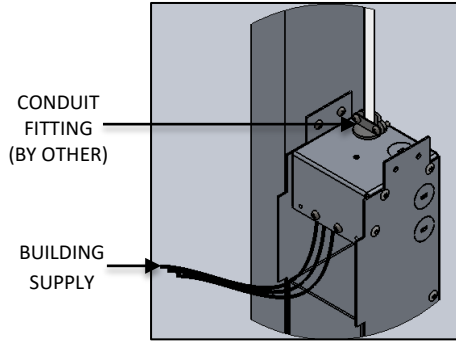

FIG. 10- DETAIL SHOWING BUILDING SUPPLY AND CONDUIT FITTING
6. Attach appropriate 1/2" CONDUIT FITTING to knockouts and run building supply connections into the box. make sure to pull the wires out through the square opening as shown below in FIG. 10 & 11.